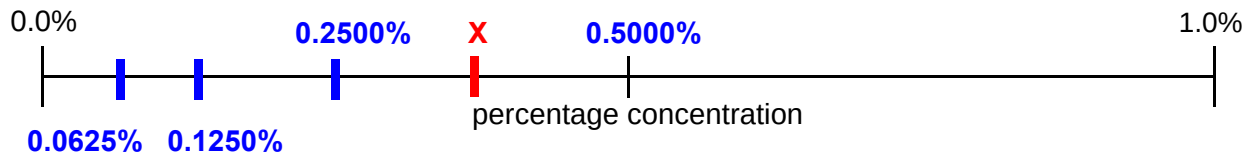

Fig. 1.3
(vi) Complete Fig. 1.3 to show:
- a) correctly labels Fig.1.3 with reducing sugar concentrations;;**
b) correctly places X on Fig.1.3 in the correct position according to table of results and time taken for X in (v);;